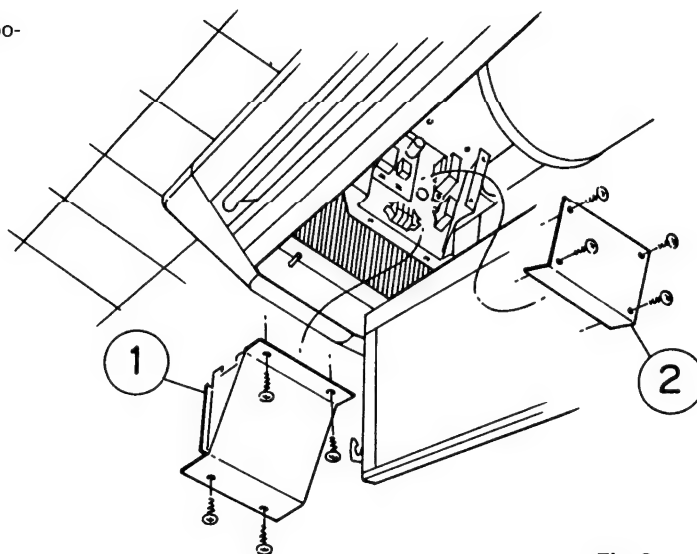

Fig.3
- ④ Remove the cover plates ① and ② of the electrical component box. Fig.3